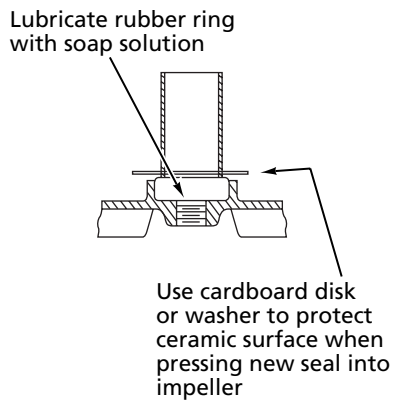

Figure 7
4. Lubricate the rubber ring in the impeller with a soap solution. Press seat into impeller cavity (Figure 7). If a tool or pipe is necessary to press ceramic seat correctly, use a cardboard disk or washer to protect the highly polished ceramic surface of the new seal.